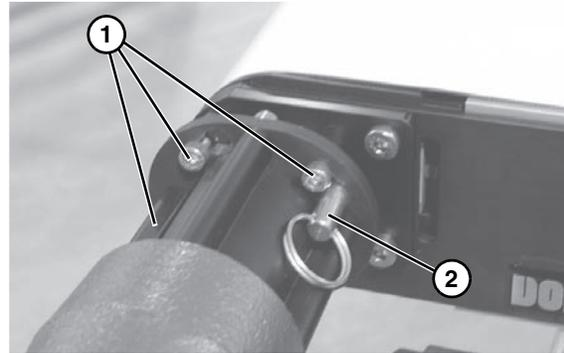

Figure 9
2. Loosen the four (4) coupling lock screws (**Figure 9, item 1**), remove anti rotation pin (**Figure 9, item 2**). Rotate and remove gearmotor assembly.